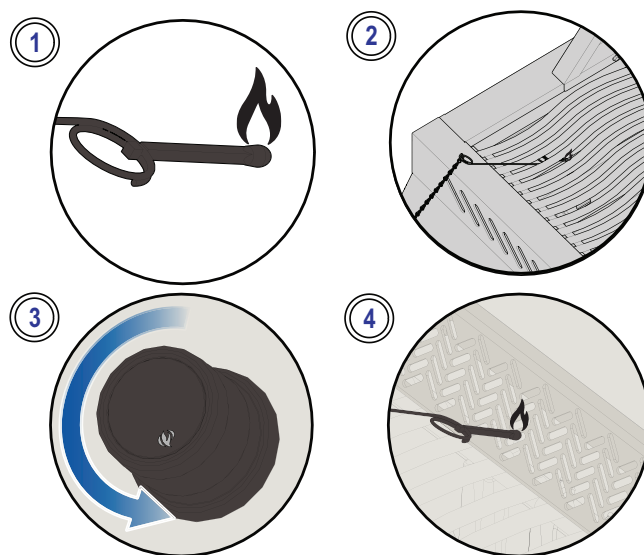

Fig. 3
3. While turning the corresponding burner knob to high. **(Fig. 3).**